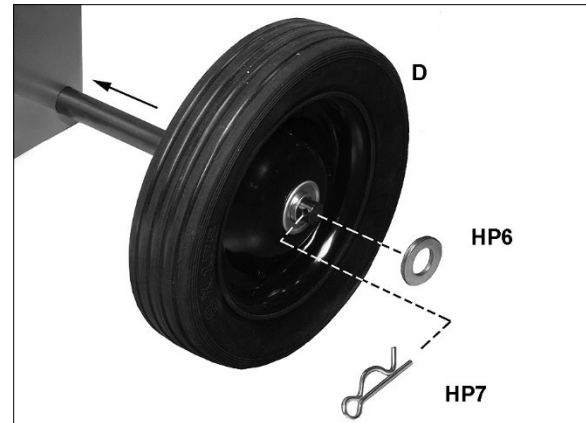

Figure 6-3: installing wheels
2. Slide axles through holes in stand, and install four wheels with flat washers and cotter pins (Figure 6-3). Bend ends of cotter pins to secure wheel, then carefully lower saw to floor.